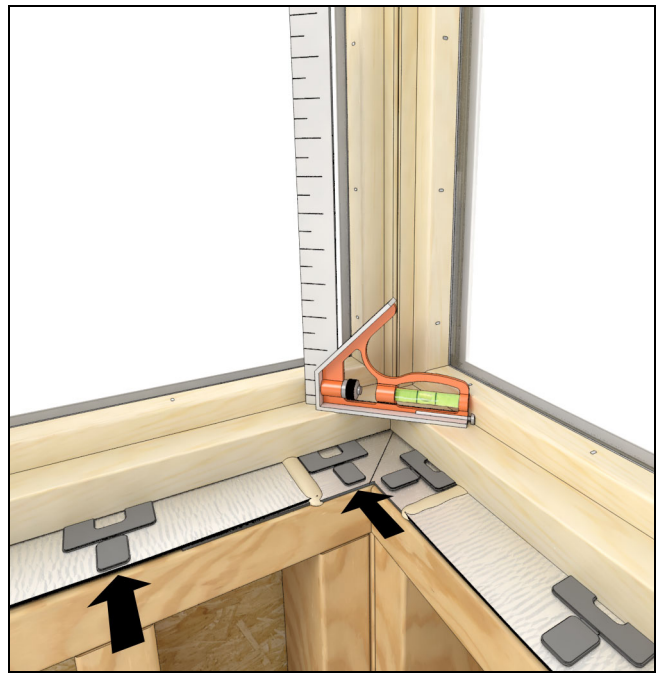

Figure 40
7. Check that the units are level to one another and that the interior miter is flush. Shim as necessary. See Figure 40.